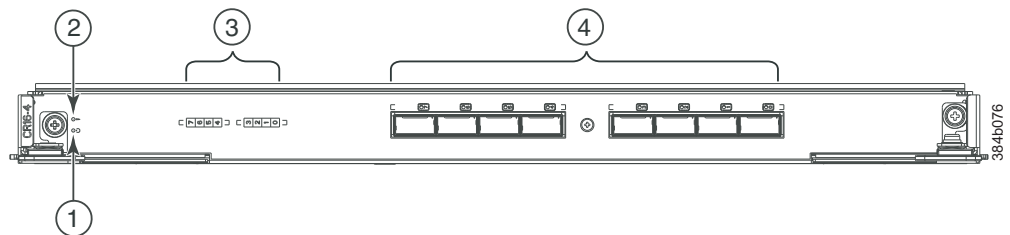

Figure 27. Core switch blade (CR16-4)
1. Check the LED indicators on the core switch blade (Figure 27). The LED patterns may temporarily change during POST and other diagnostic tests; for information about how to interpret the LED patterns, see Table 10 on page 62.
Figure 27 shows the CR16-4 core switch blade and its components.